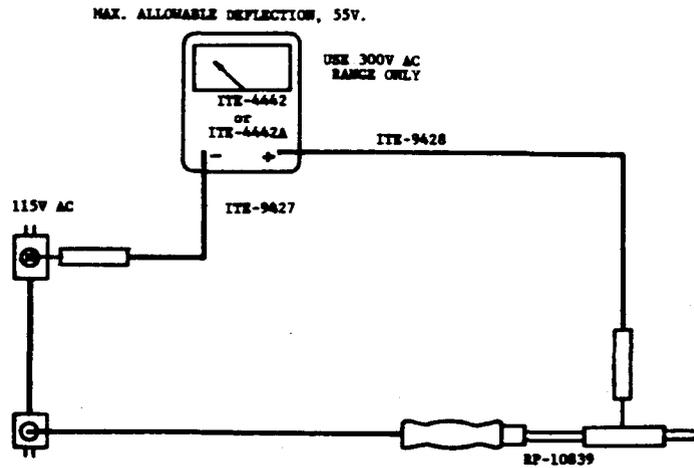

FIG. 3 CHECKING SOLDERING COPPER FOR LEAKS OR GROUNDS (PAR. 5.1.3)
5.1.3 ITE-4442 Voltmeter: Make the test connections as shown in Figure 3. Use the 300V AC range and test for leaks on each side of the line. (TMO-4442 which describes the operation of ITE-4442 is included in Handbook 100.) Coppers shall not be used when readings are in excess of 55 volts.